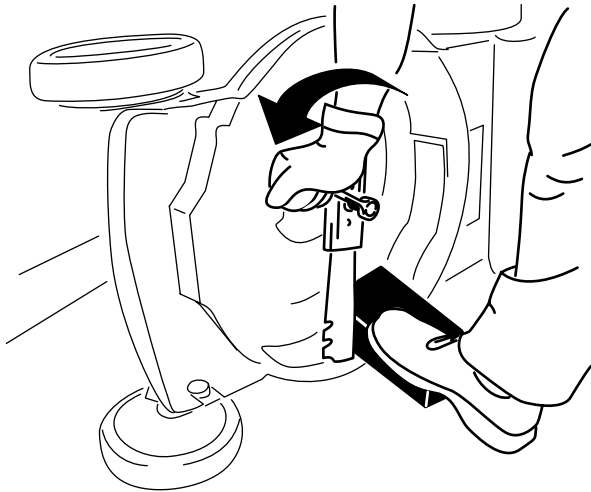

Figure 28
2. Use a block of wood to hold the blade steady (Figure 28).
3. Remove the blade, saving all mounting hardware (Figure 28).